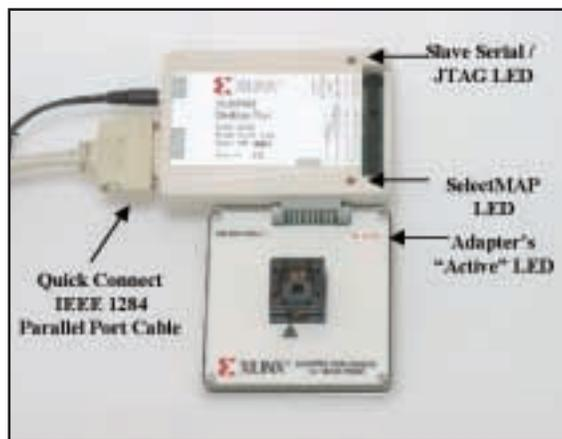

Figure 2 - MultiPRO with programming adapter
- Run software to program target CoolRunner-II or XC18V00 ISP PROM (Figure 2).